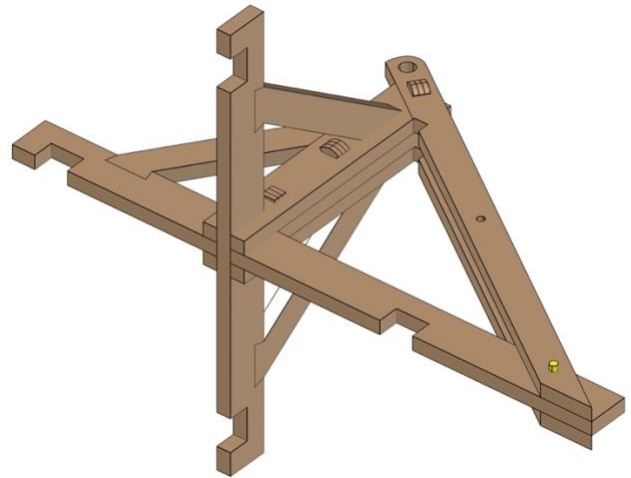

Fig. 50
- *Fig. 50* shows the completed process.